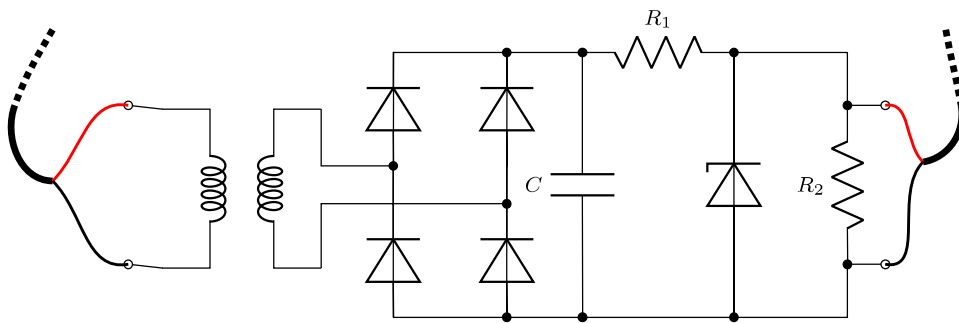

Figure 19: Bridge with filter capacitor and zener diode
**Note.** For the circuit shown in Figure 19 record the waveforms for two different zener diodes.